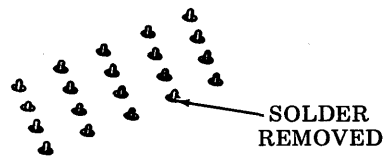

Fig. 20—Connector Pins
- (b) Remove solder from around connector pins of cable to be removed (Fig. 20).